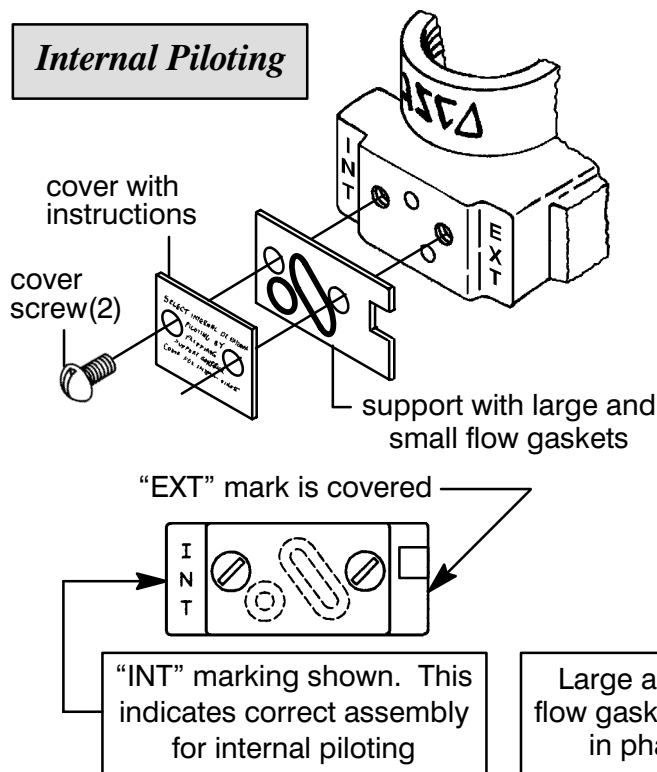

Figure 1. Positioning of support with flow gaskets for internal piloting mode.
The piloting (Mode of Operation) of the valve is determined by the positioning of the **Support with Flow Gaskets** on the side of the valve body. See Figures 1 & 2 for proper positioning of **Support with Flow Gaskets** for internal or external piloting mode of operation.
2. Refer to views in Figure 1 for proper location and position of parts for **Internal Piloting Mode** of operation.
4. Line up support (with flow gaskets) on side wall of valve body using machine screw holes as a guide. When support is correctly positioned (as shown in Figure 1.) the letters
INT are visible and letters EXT on opposite side are covered by the support. Confirm proper alignment with views in Figure 1. Then replace cover and cover screws.